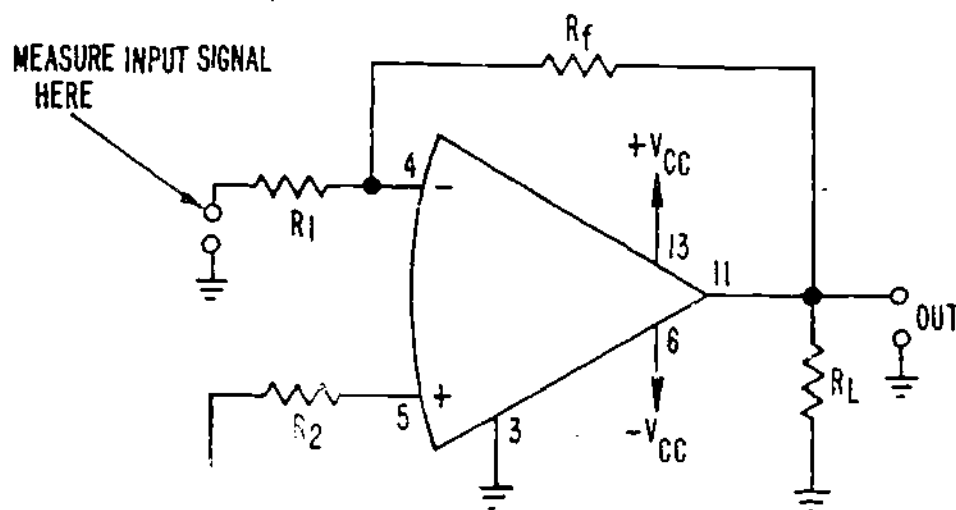

Figure 11
11. In fact, the input signal applied to Pin 4 of the IC is so small that even the very small loading effect of your oscilloscope will make the signal almost undetectable. Therefore, you must measure the input signal to the inverting circuit at the circuit's input (input side of the input resistor) as shown in Figure 11.